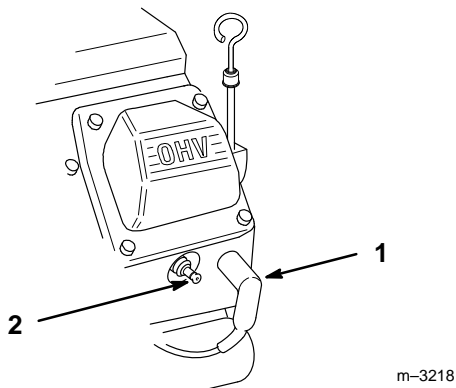

Figure 18
2. Pull the wire(s) off the spark plug(s) (Fig. 18). Now clean around the spark plug(s) to prevent dirt from falling into the engine and potentially causing damage.
3. Push the wire(s) onto the spark plug(s) (Fig. 18).